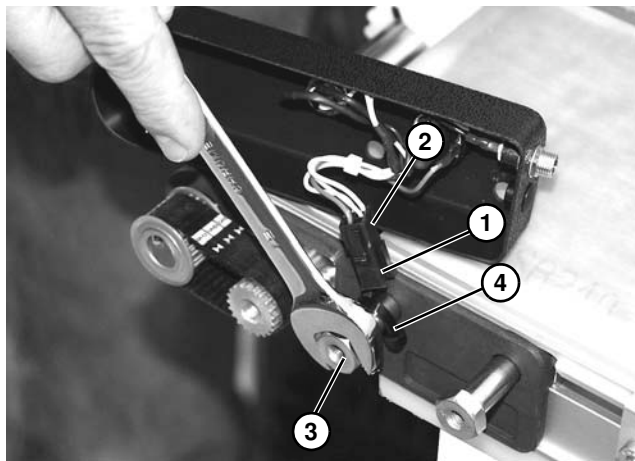

Figure 62
3. Unplug motor connector (**Figure 62, item 1**) from cover wiring connector (**Figure 62, item 2**).
4. Remove hex standoff (**Figure 62, item 3**) and remove tie strap (**Figure 62, item 4**) and wiring harness from hex standoff.